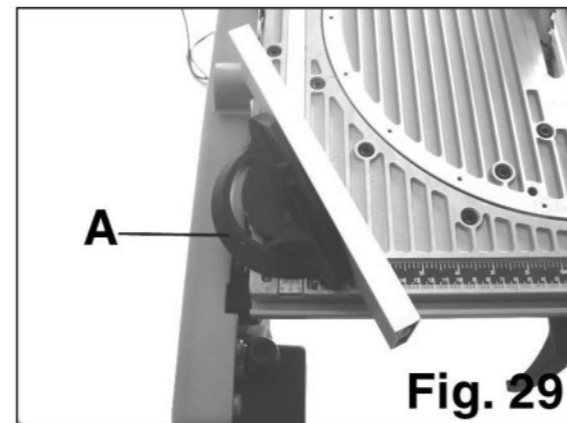

Fig. 29
1. Insert the angle guide in one of the slots in the table as shown in the **Fig.29**, and adjust the desired angle. Then tighten the screw (A).